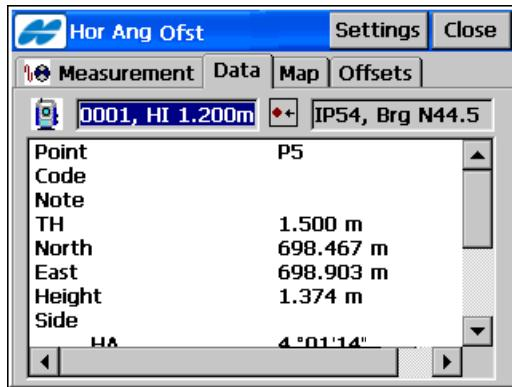

Figure 9-11. Horizontal Angle Offset – Data Tab
- The *Data* tab (Figure 9-11) on the ***Hor Ang Ofst*** screen contains the data collected during the offset measurement.